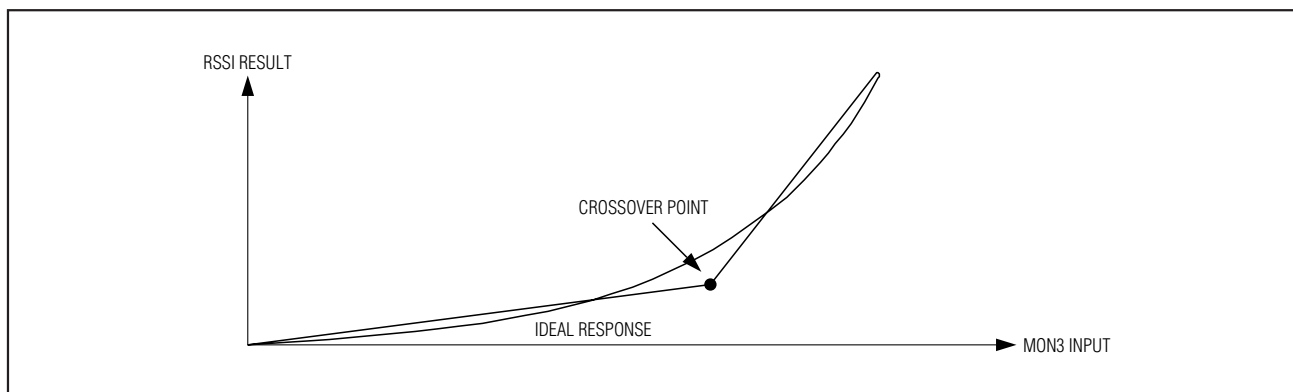

Figure 8. RSSI with Crossover Enabled
- **Crossover Enabled:** For systems with a nonlinear relationship between the ADC input and desired ADC result, the mode should be set to crossover enabled (Figure 8). The RSSI measurement of an APD receiver is one such application. Using the crossover enabled mode allows a piecewise linear approximation of the nonlinear response of the APD's gain factor. The crossover point is the point between fine and coarse points. The ADC result transitions between the fine and coarse ranges with no hysteresis. Right-shifting, slope adjustment, and offset are configurable for both the fine and coarse ranges. The XOVER FINE register determines the maximum results returned by fine ADC conversions, before right-shifting. The XOVER COARSE register determines the minimum results returned by coarse ADC conversions, before right-shifting.